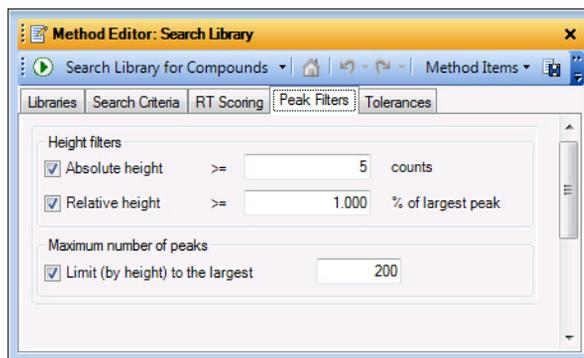

Figure 24 Peak Filters tab.
- e In the **Peak Filters** tab, set the **Absolute height** to **5** counts and the **Relative height** to **1% of largest peak**. See Figure 24.